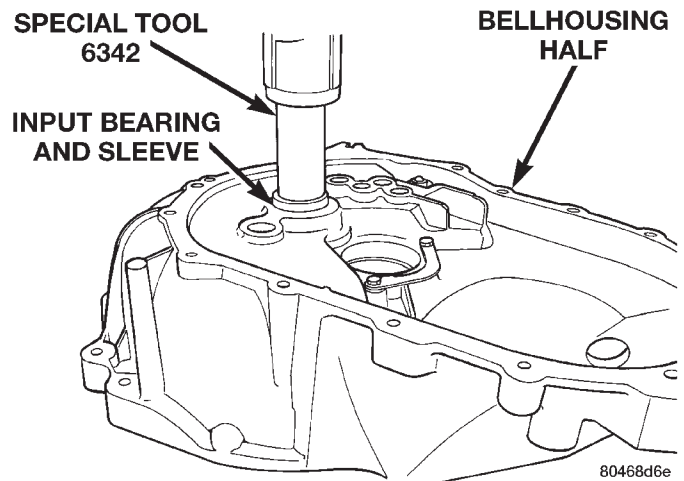

Fig. 137 Input Bearing Removal
- (1) Install tool #6342 over input bearing on the gear case side of the transaxle clutch housing.
- (2) Press the input bearing out of the housing (Fig. 137).